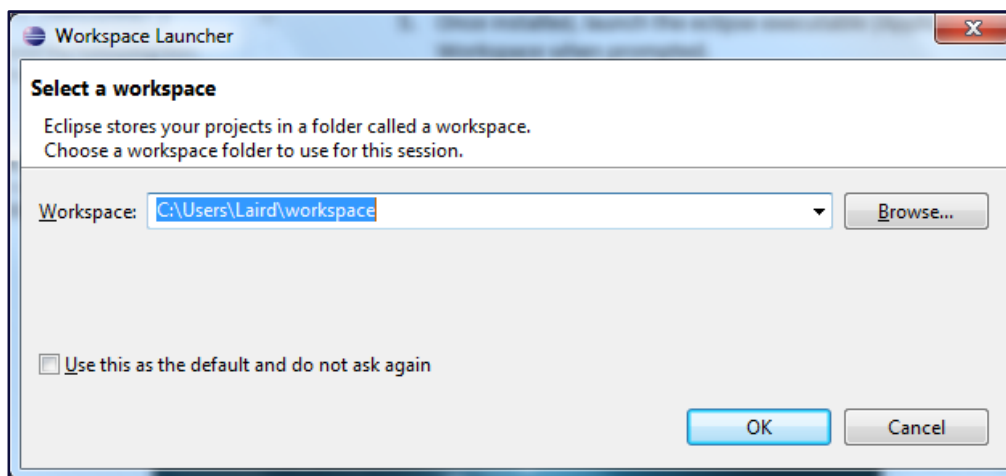

Figure 4: Eclipse default workspace
5. Once moved, launch the Eclipse executable (Application). Use the default **Workspace** when prompted (Figure 4).